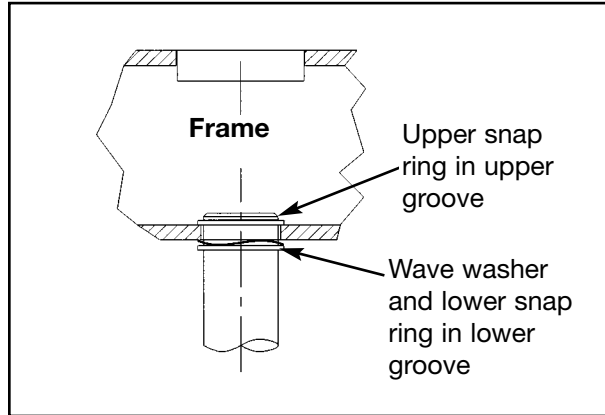

Figure 6
- L. Raise guide rod up through mounting hole and install the upper snap ring into the upper groove of the guide rod. See Figure 6.
- M. Lower guide rod and secure wave washer and lower snap ring. See Figure 6.